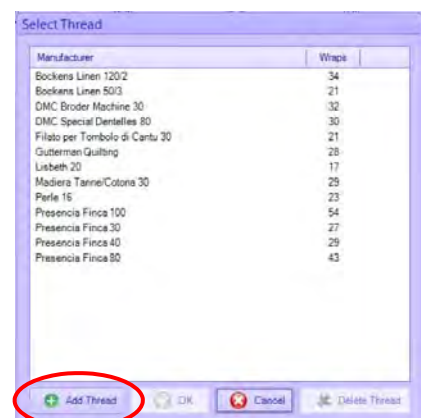

Fig. 4 Selection of threads added
You will need to spend a few minutes getting the threads set up. The good news is, once you have added a thread and linked it to a grid size, Lace 8 will remember what you have set, so next time it is a simple case of selecting the thread from a dropdown list. (like my list in Fig. 4)
4. Click on ADD THREAD (Fig. 4)